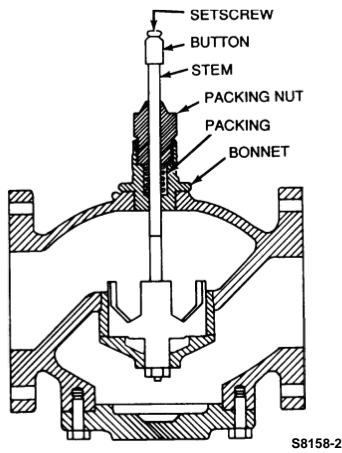

Fig. 14. V5011B and E Reverse Acting Flanged Body Valve—Cutaway.
- e. V5011B and E Reverse Acting Flanged Body Valves (Fig. 14). Unscrew the Bonnet. Remove the Adapter Flange at the bottom of the valve by unscrewing the Mounting Screws. Remove the Stem and Plug.